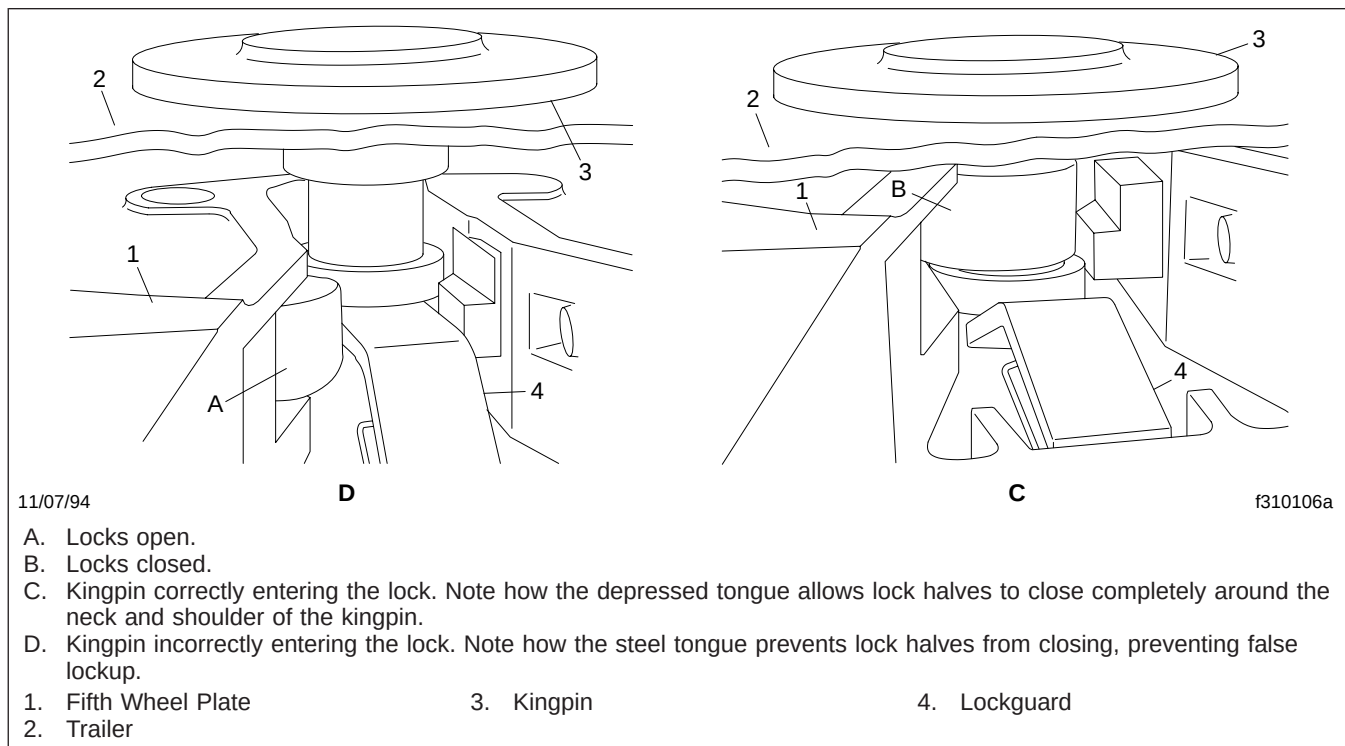

Fig. 10.6, Lockguard Mechanism (rear view)
Lockguard (Fig. 10.6)
3. Position the tractor so that the fifth wheel lock opening is in line (both vertically and horizontally) with the trailer kingpin. The kingpin should be in a position to enter the throat of the locking mechanism, to prevent a false lockup. See Fig. 10.6. Adjust the trailer landing gear to give enough alignment height so that the fifth wheel picks up the trailer on the fifth wheel ramps.